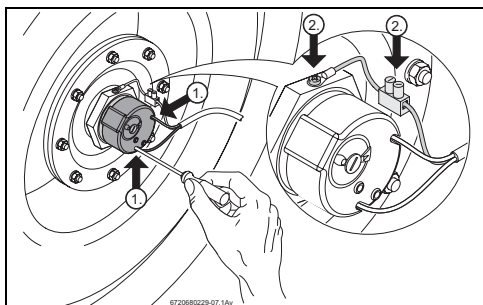

Fig. 8
- ▶ Connect the power supply and grounding connections to the thermostat and to the electrical switchboard (→ Fig. 8).